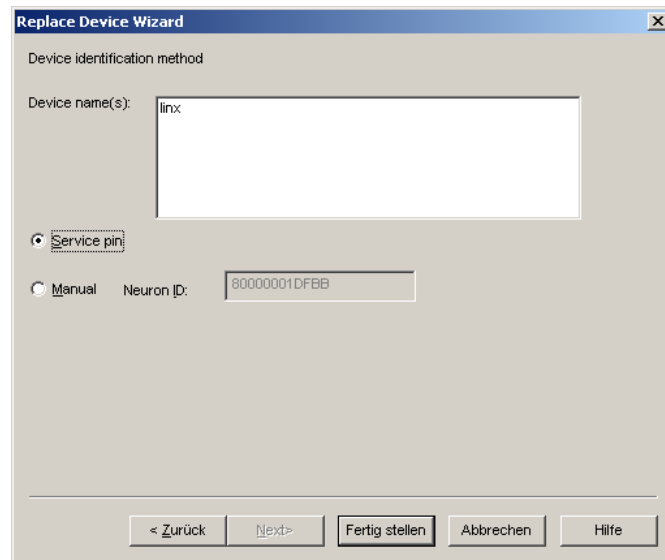

Figure 82: Select Service Pin and click Finish.
6. Select the **Service pin** method and click on **Finish** as shown in Figure 82.